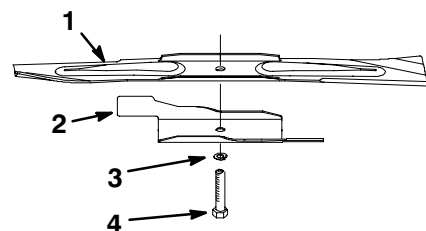

Figure 22
2. Remove the blade bolt, the lockwasher, the accelerator, and the blade (Fig. 22).